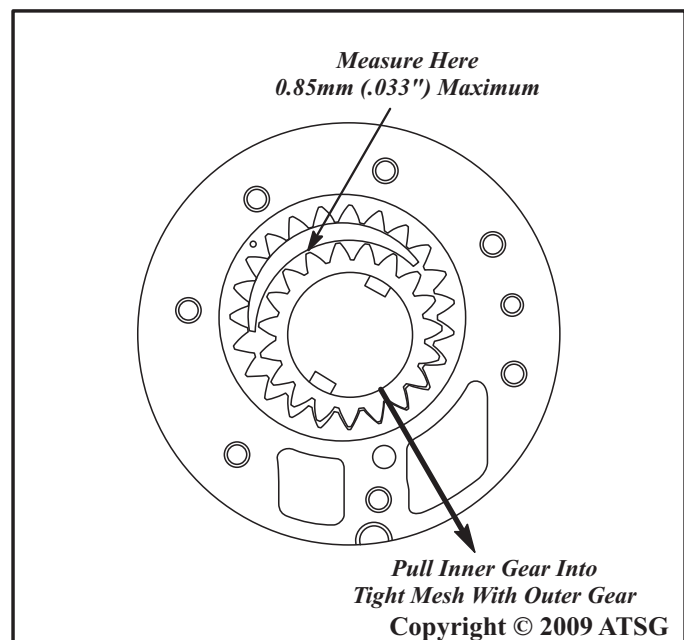

Figure 69
18. To measure inner gear to crescent clearance, pull the inner gear into tight mesh with outer gear, and measure between teeth of inner gear and crescent, as shown in Figure 69.